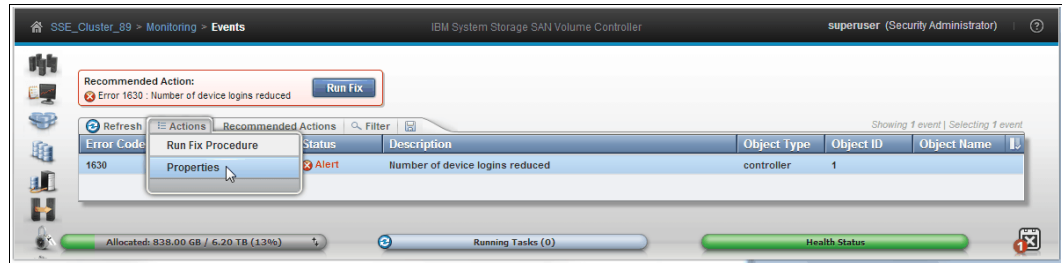

Figure 15-16 Event properties action
2. Click **Properties** in the Actions menu, as shown in Figure 15-16.